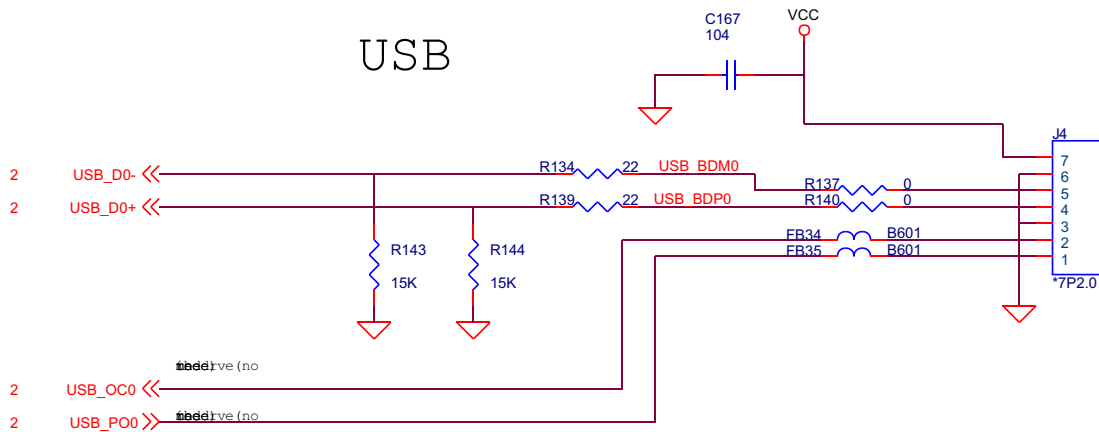

Figure 3.2.9.1 USB circuit diagram
1. DMN-8602 integrates USB module circuit inside, shown in the figure 3.2.9.1, and it can directly read external USB device. After the integrated USB module circuit inside DMN-8602 detects external equipment connection, it applies for intermission continuously to the control module of DMN-8602 to wait for the response of DMN-8602 control module; after control module gives response, USB module circuit achieves internal bus to read data of external equipment in directly.